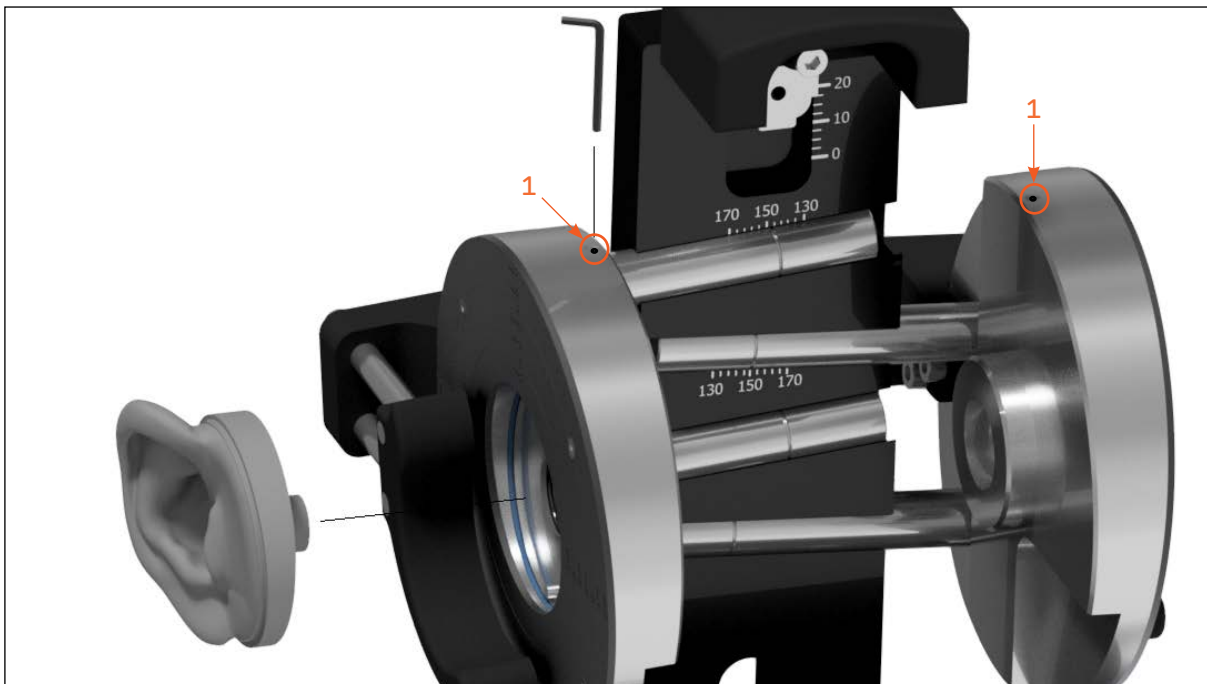

Fig. 10. Showing the screws locations for locking the ear simulator. Loosen the locking screw (1) holding the ear simulator with the Allen Key YY0016.
Once you're satisfied with your setup, use the 2.5 mm locking screw (1) (Fig. 10.) to keep everything securely in place.